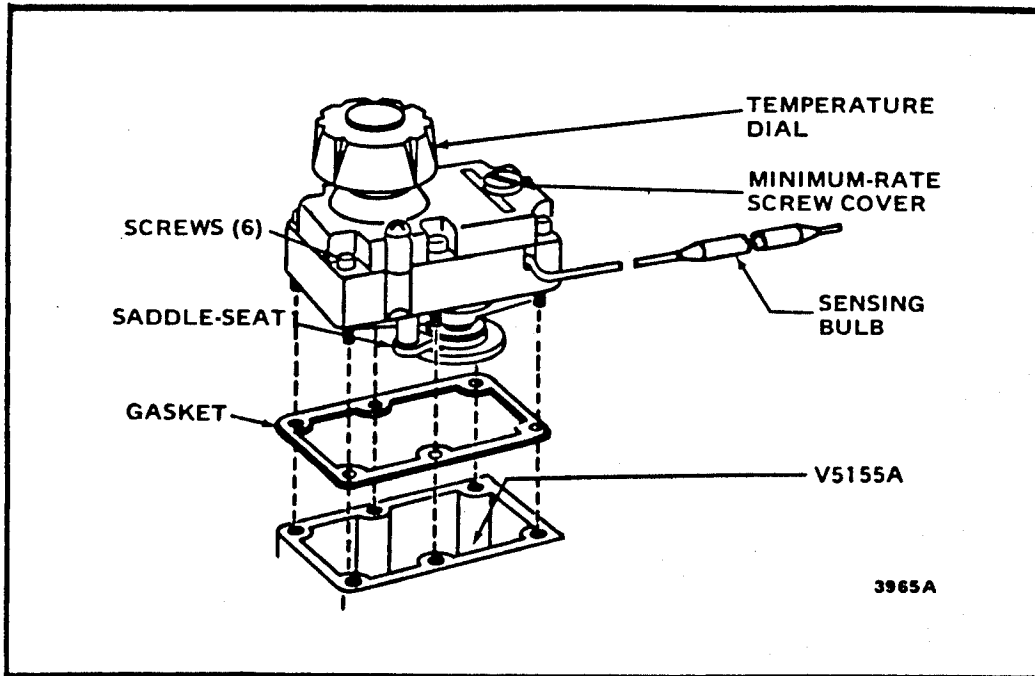

Fig. 40—Replacing T5001 operator on V5155 gas control.
- 1. Remove the old operator and gasket (Fig. 40).